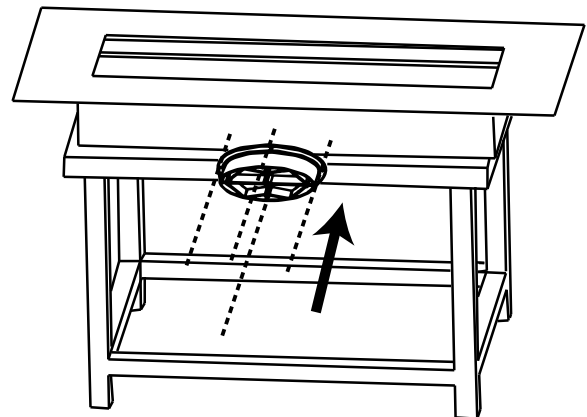

Fig. 3-4
- C. Using the same screws, align the center stand piece to the bottom holes and secure it into the appliance (**Fig. 3-4**).